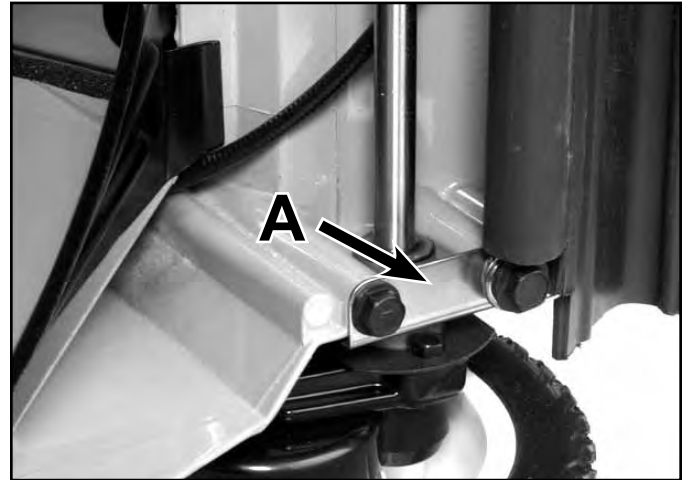

Fig 131
4. Slip the two rear end cap fasteners through the safety shield guide wires then install. Tighten all four end cap fasteners (Fig. 131).